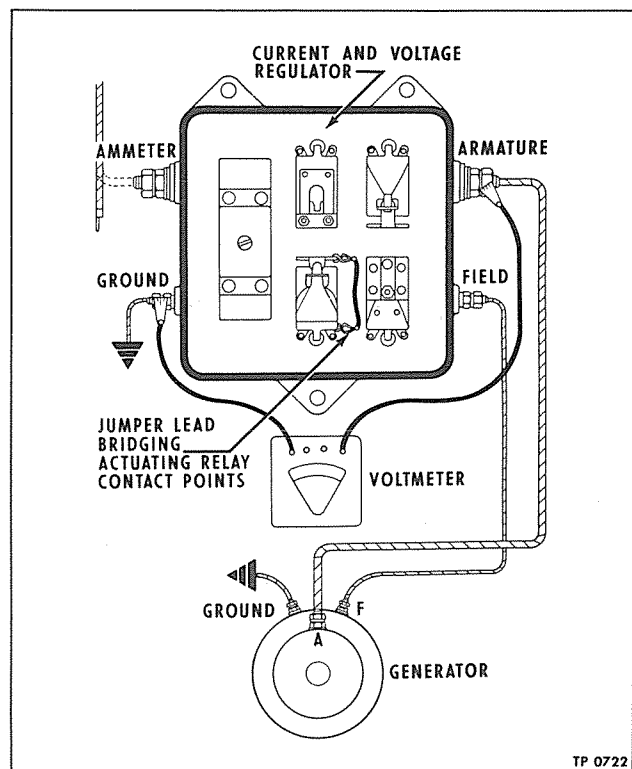

Figure 14—Meter Connections for Cut-out Solenoid Operating Voltage
1. Disconnect lead at regulator "ammeter" terminal (fig. 14).
2. Connect a jumper lead across actuating relay contact points so that points are short circuited (fig. 14).
3. Connect a test voltmeter between "armature" terminal and "ground" terminal on regulator (fig. 14).